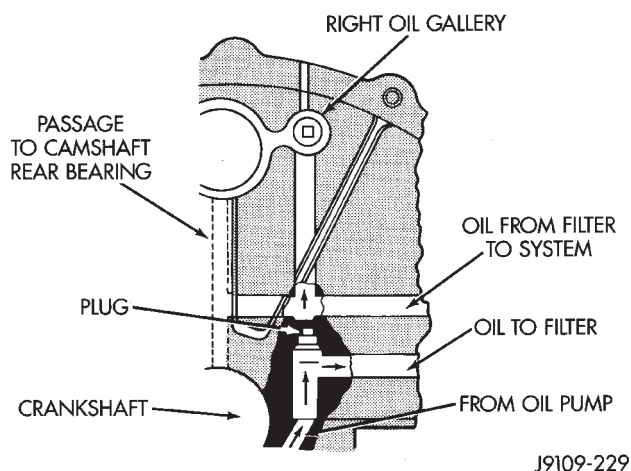

Fig. 48 Oil Line Plug
The oil line plug is located in the vertical passage at the rear of the block between the Oil-To-Filter and Oil-From-Filter passages (Fig. 48). Improper installation or plug missing could cause erratic, low or no oil pressure.
(1) Remove oil pressure sending unit from back of block.
(2) Insert a 3.175 mm (1/8 inch) finish wire or equivalent into passage.
(3) Plug should be 190.0 to 195.2 mm (7-1/2 to 7-11/16 inches) from machined surface of block (Fig. 48). If plug is too high, use a suitable flat dowel drift to position properly.